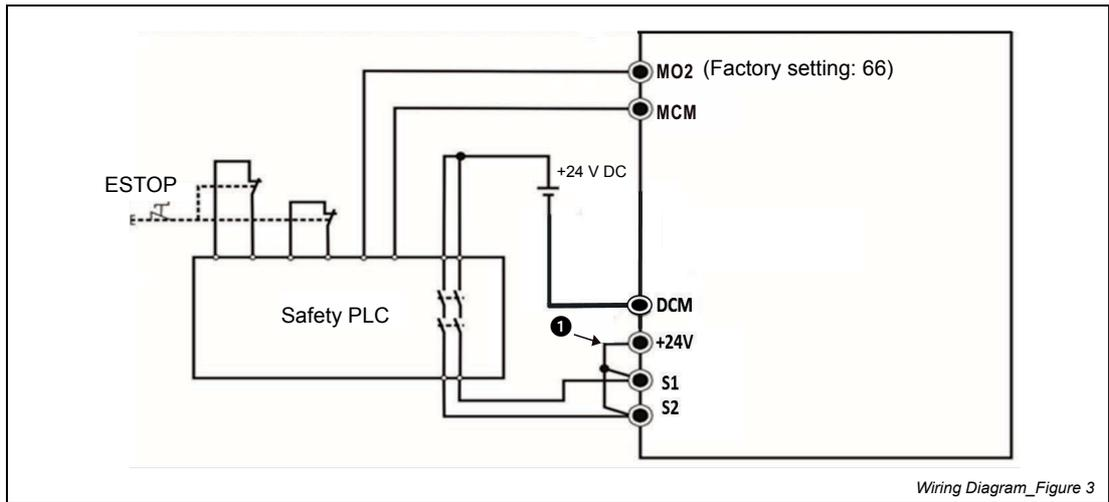

Fig. 12-3: Wiring
- ① Remove the jumper wire from +24V-S1-S2.
- ② The wiring is shown in fig. 12-3. Normally, you must close the ESTOP contact switch, so the drive can output without displaying an error.
- ③ In STO mode, the switch ESTOP is turned on. The drive stops outputting and the keypad displays STO.